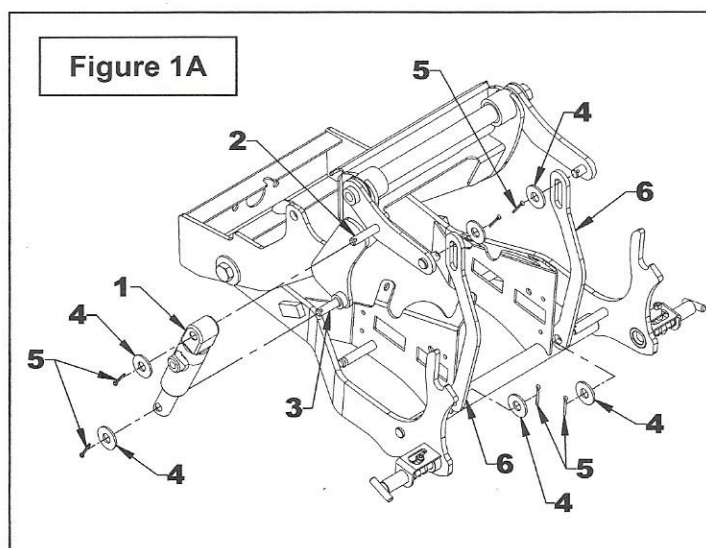

Figure 1A
3. **Figure 1A:** Apply grease to the subframe pin (item 2) and the hitch pin (item 3).
4. **Figure 1A:** Attach the cylinder (item 1) to the subframe pin (item 2) and the hitch pin (item 3) with two 1/2" flat washers (item 4), and two 1/8" x 1" cotter pins (item 5).
5. **Figure 1A:** Attach the two lift levers (item 6) as shown with four 1/2" flat washers (item 4), and four 1/8" x 1" cotter pins (item 5).